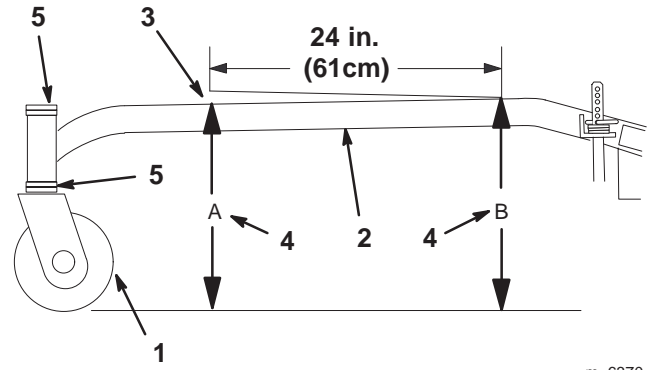

Figure 69
The carrier frame must have a pitch of a 1/4 inch (6 mm) over the length of 24 inches (61 cm) on the carrier frame (Fig. 69).
1. Measure out 24 inches (61cm) on the carrier frame (Fig. 69).
2. Measure carrier frame height at location **A** (Fig. 69).
3. Measure carrier frame height at location **B** (Fig. 69).
4. The height at location **A** must be a 1/4–3/8 inch (6 mm –10 mm) lower than location **B** (Fig. 69).
5. If the carrier frame is not correct, move caster spacers to make it a 1/4–3/8 inch (6 –10 mm) pitch (Fig. 69). Move spacers from top or bottom to make the correct pitch.